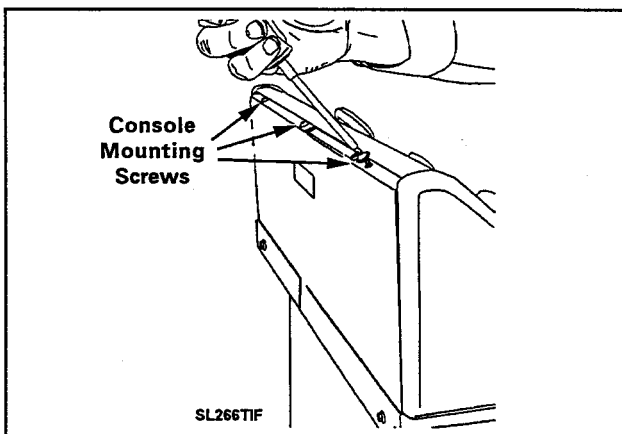

Figure 4-1
2. Remove the three screws securing the console rear cover plate across the rear top edge of the console (*Figure 4-1*).